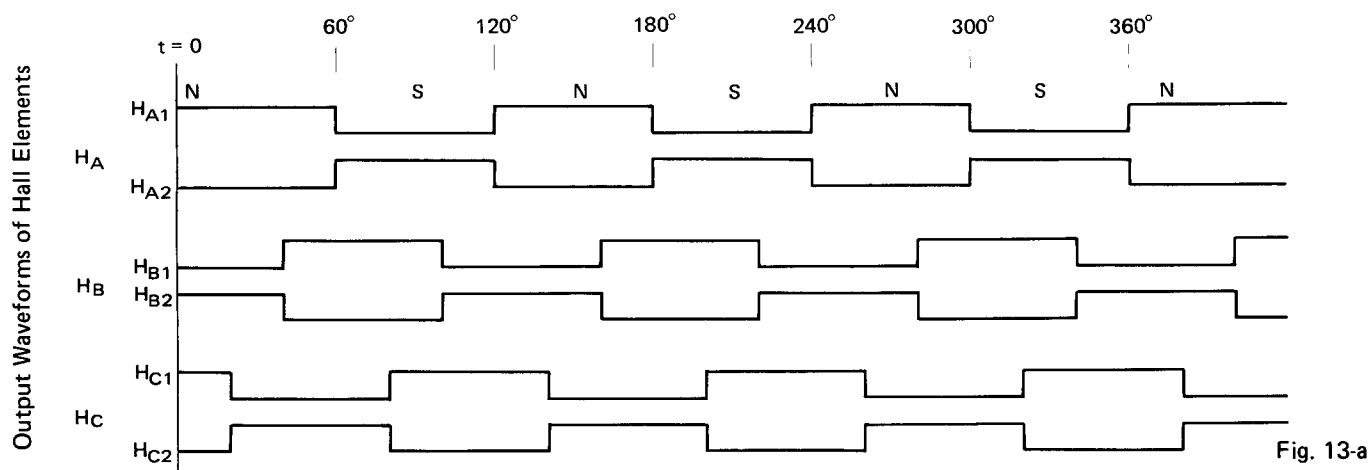

Fig. 13-b
3. When the unit is switched on, the output voltages of the respective Hall elements will be as shown in Fig. 13-a, page 33.
5. The output from the Hall elements undergoes waveform formation in the Position Signal Combination circuit. The resulting waveforms are shown in Fig. 13-b, page 33.